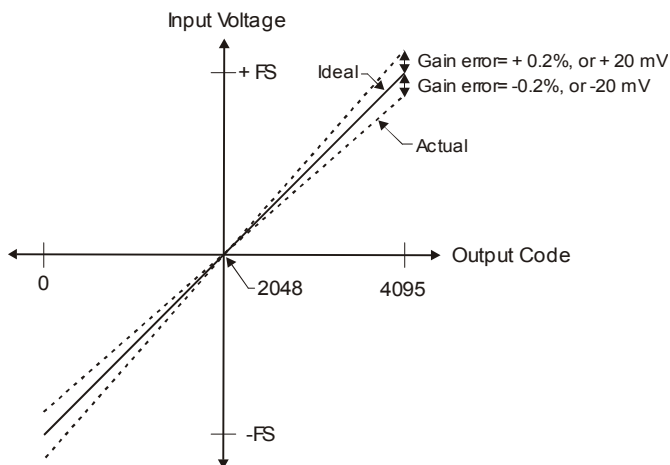

Figure 3-12. ADC Transfer function with gain error
Gain error is a change in the slope of the transfer function from the ideal, and is typically expressed as a percentage of full-scale. Figure 3-12 shows the PMD-1208LS transfer function with gain error. Gain error is easily converted to voltage by multiplying the full-scale (FS) input by the error.
The accuracy plots in Figure 3-12 are drawn for clarity and are not drawn to scale.